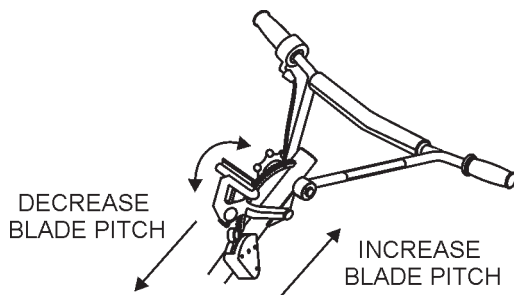

Figure 28. Quick-Pitch™ T-Handle
1. To pitch the blades upwards using the "**Quick-Pitch™**" **T-handle**, (Figure 28) simply squeeze the trigger lock and pull the **T-handle** towards the operator. Pushing the **T-handle** towards the engine will cause the blades to lay flat.